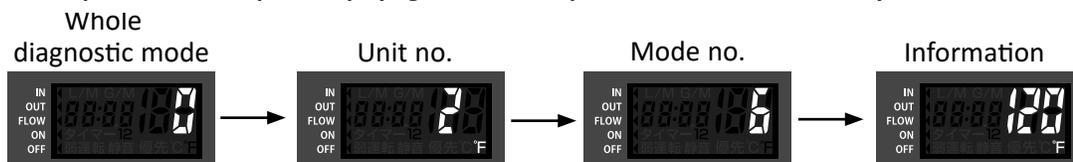

Figure 20: Multiple unit temperature display.
2. "0" will display on the controller. (See Figure 20.)
3. Scroll to the desired unit number in the linked system by pressing the HOT or COLD button to scroll up or down. (Figure 20 shows that unit no. 2 is selected.)
5. When the desired unit number is selected, press the HOT or COLD button to scroll to the desired information (mode number). Figure 20 shows that mode number 6 is selected. See Table 7, page 38 for a list of mode numbers and their meanings.